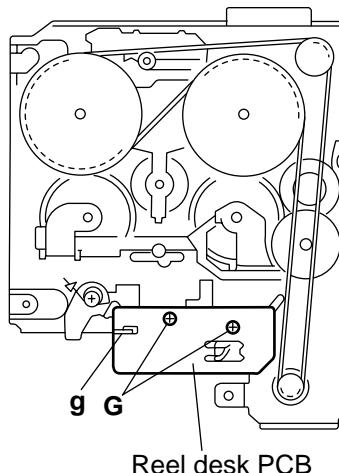

Fig.10
■ Removing the reel disk PCB (see Fig. 10)
5. Straighten the curved tab **g** securing the reel disk PCB. (see Fig. 10)